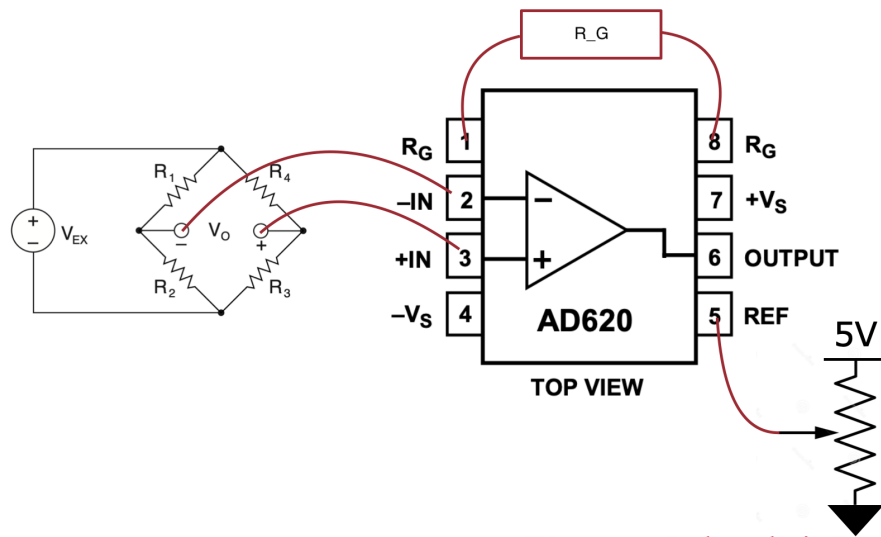

Figure 2: Schematic for implementing the AD620 Instrumentation Amplifier. $+V_S$ should be 5V and $-V_S$ should be connected to GND.
2. Build the circuit in Figure 2. Choose the resistor, R_G , needed to get close to your nominal gain calculated above. You will need to measure the actual resistance with a DMM, since we only have $\pm 10\%$ tolerance resistors. If you need help wiring the load cell (those wires are thin!), see the course or lab staff. You can use a potentiometer for the offset or just hard-wire a voltage divider. In the end, you'll calibrate the sensor so the exact value of the offset is not critical.